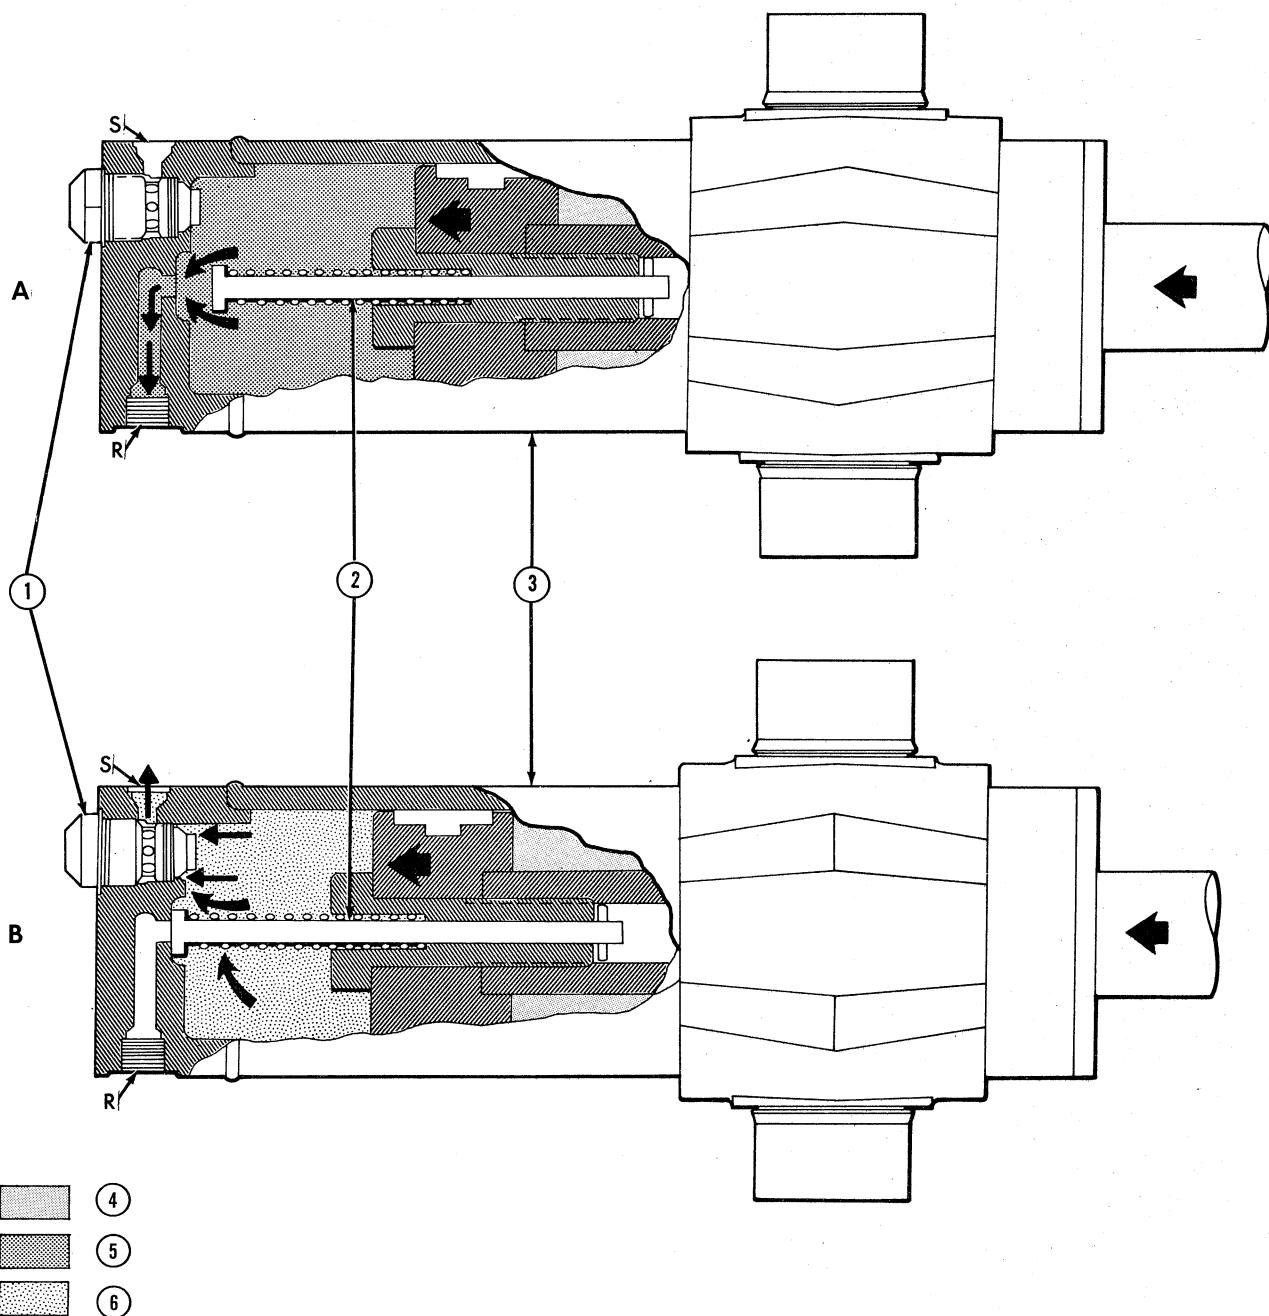
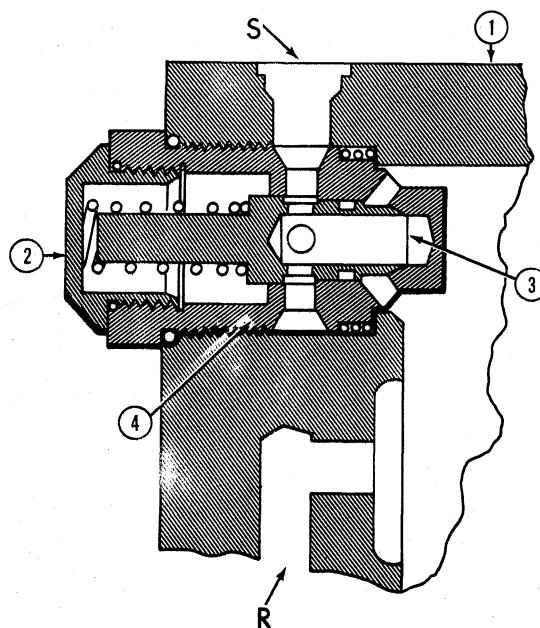

Figure 10
Figure 11
The cushioning valve is of a direct operating type, in that high pressure oil forces the poppet from its seat, then enters the valve area and flows out to lower pressure. The cushioning valve functions as both a cushion and deceleration device. Note that the deceleration rod (2), Figure 10, is spring loaded and begins to function before the cylinder reaches the end of its stroke.
In the first condition, swinging partially right, then releasing the control lever, refer to illustration (A), Figure 10. As the operator actuates the control lever to swing partially right, oil flows into the rod end of the cylinder (port not shown), causing the cylinder to retract. The oil in the piston end flows out port (R) because the cylinder has not retracted far enough for the deceleration rod (2) to cover the port. Oil flowing out port (R) goes to the end cap porting of the left swing cylinder and flows to either the rod end of the left swing cylinder to help prevent voids (cavitation), or back to the control valve and on to sump.
When the pressure in the cylinder exceeds the setting of the valve, the poppet (3), Figure 11, moves to the left, lifting off its seat, allowing oil to flow into the hollow area of the poppet and out port (S) through the radially drilled holes in the valve body (4). Port (S) will allow oil to return to the rod end of the right swing cylinder and the piston end of the left swing cylinder to help prevent voids (cavitations). It may also cause the left swing cylinder cushion valve to function, returning oil to sump through the control valve. This results in a cushioning action by equalization of oil pressure.
In the second condition, swinging fully right, refer to illustration (B), Figure 10. As the cylinder retracts and nears the end of its stroke, the deceleration rod (2) blocks oil from flowing out port (R) as shown. However, oil is still flowing into the rod end of the cylinder because the operator is holding the control lever in the swing right mode. This causes the pressure in the piston end to increase. As the pressure in the piston end increases and exceeds the setting of the cushioning valve, the poppet (3), Figure 11, moves to